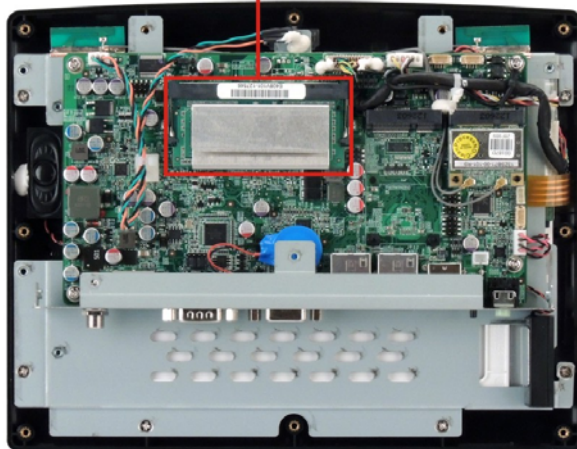

Figure 4-1: AFL-10A-N26 SO-DIMM Socket Location
Step 4: Locate the DDR3 SO-DIMM on the motherboard (**Figure 4-1**).